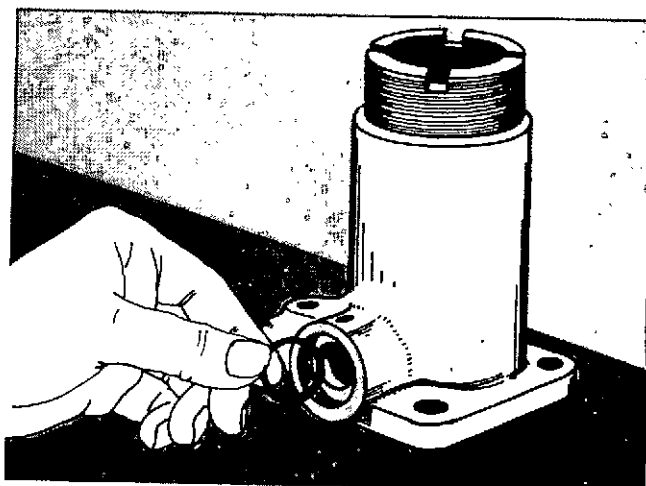

Fig. 4-36. Install The Sealing Ring.
20. Install a new sealing ring in the solenoid valve bore, Fig. 4-36. Lubricate the sealing ring with clean engine lubricating oil.